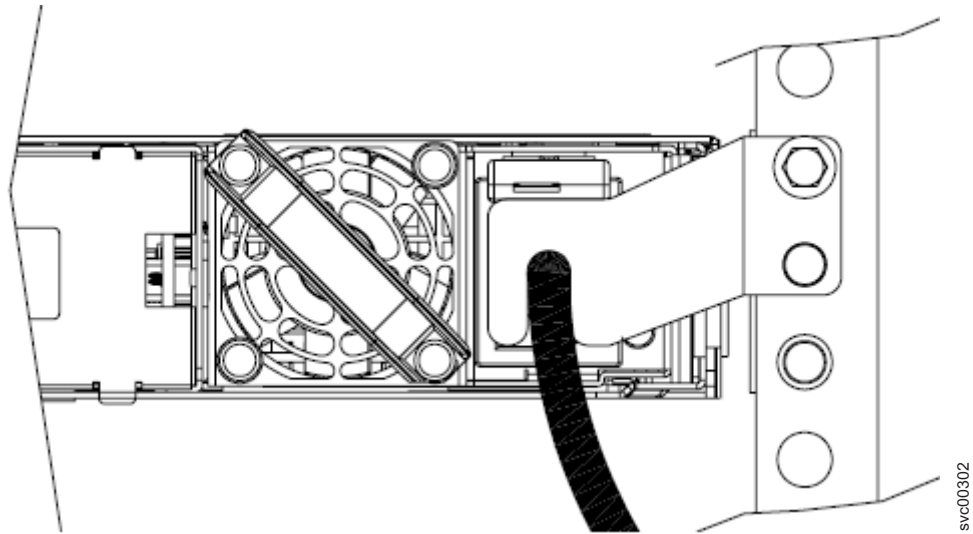

Figure 19. The SAN Volume Controller 2145-8G4 with cable retention bracket type B attached
2. At the back of the cabinet, remove the securing bolt from the node side rail next to the power supply, as shown in Figure 19 on page 33.